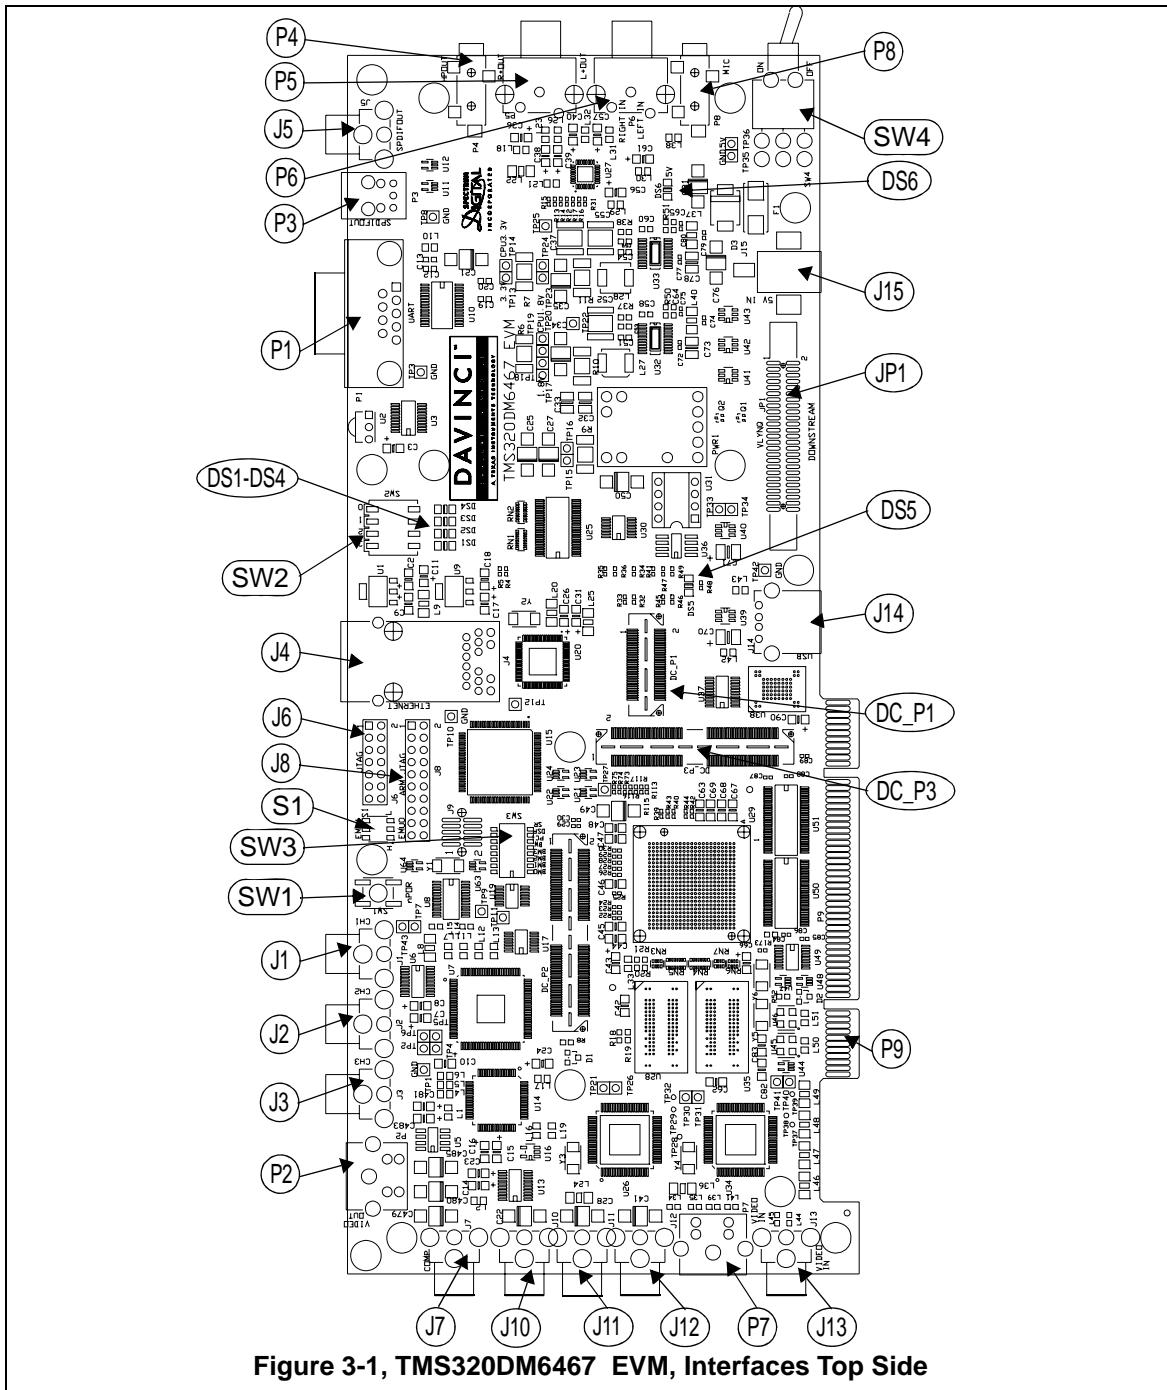
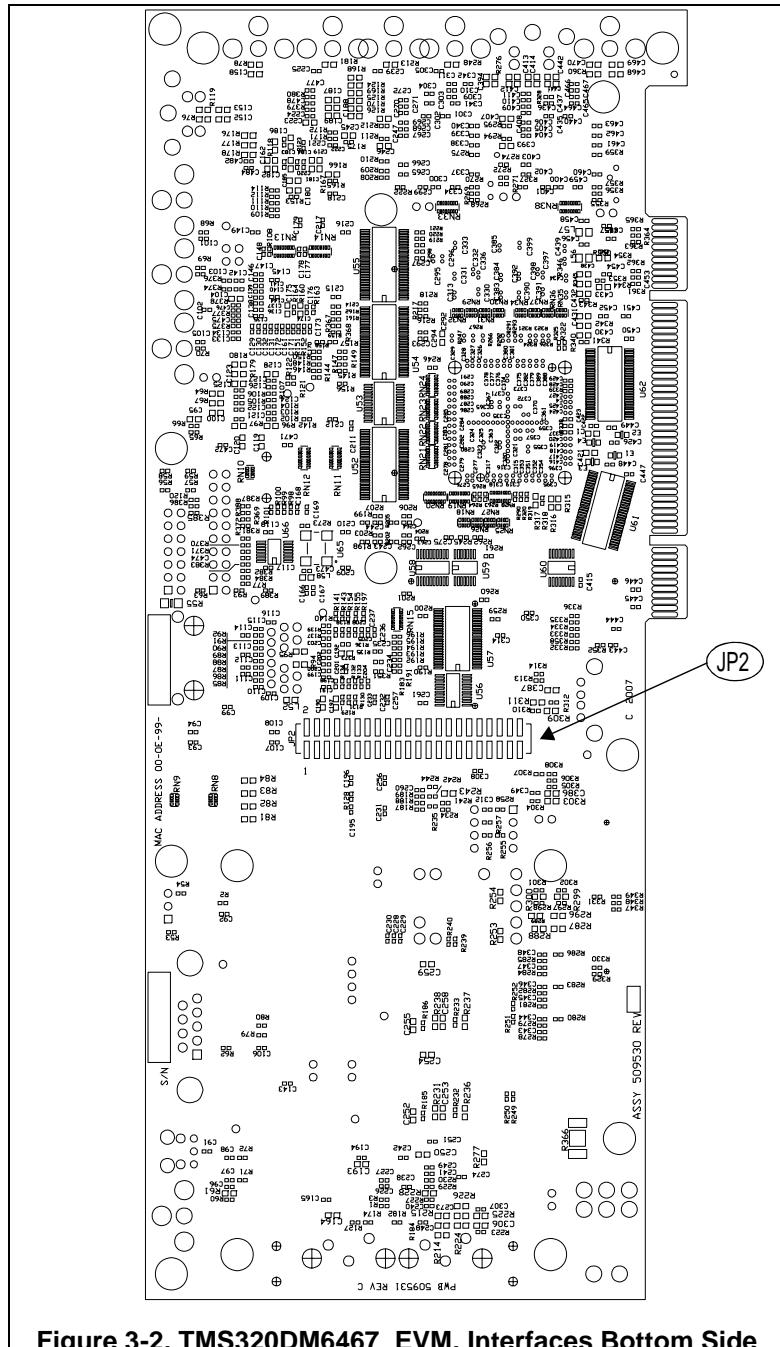

Figure 3-1, TMS320DM6467 EVM, Interfaces Top Side
Figure 3-2, TMS320DM6467 EVM, Interfaces Bottom Side
The TMS320DM6467 EVM is a 10.0 x 4.2 inch (254 x 107 mm.) fourteen (14) layer printed circuit board which is powered by an external +5 volt only power supply. Figure 3-1 and Figure 3-2 show the layout of the TMS320DM6467 EVM.